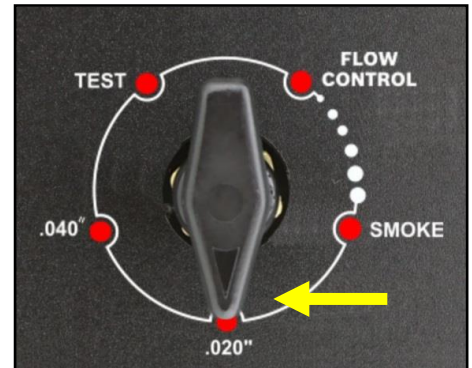

Figure 4
1. Position the Control Valve on a leak size. (See Figure 4 following OE manufacturer recommendations)